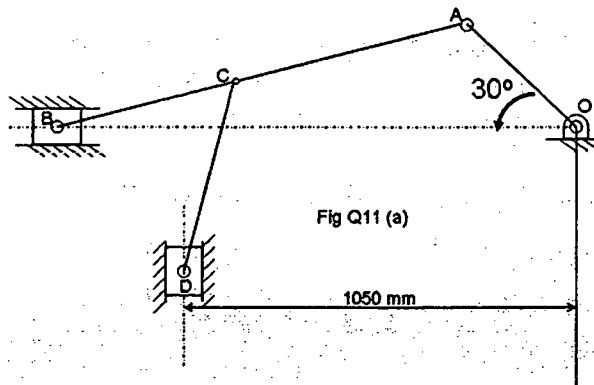

Fig Q 11 (a)
11.) In the mechanism shown in Fig Q 11 (a) , the crank OA rotates at 30 rpm ccw and gives motion to the sliding blocks B and D . The dimensions of the various links are OA = 300 mm, AB =1200 mm, BC = 450 mm, and CD = 450 mm. For the given configuration , determine